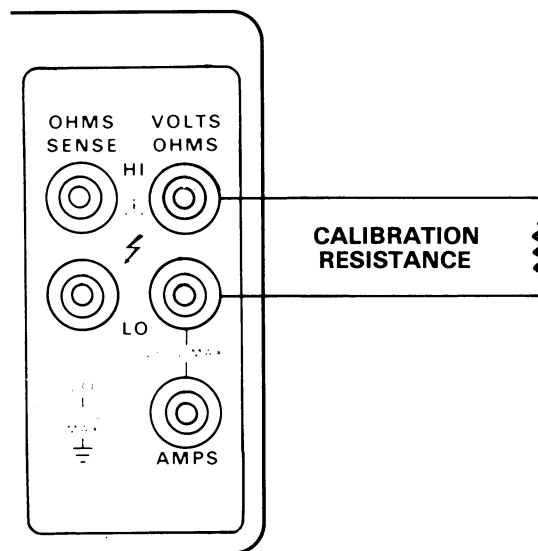

Figure 5-3. Connections for Verification of 20kΩ Through 20MΩ Ranges
6. Connect a 19kΩ calibration resistor to the instrument as shown in Figure 5-3. Note that the 2-terminal configuration may be used for measurements on the 20kΩ and higher ranges. Place the instrument on the 20kΩ range and compare the reading with the limits in Table 5-3.